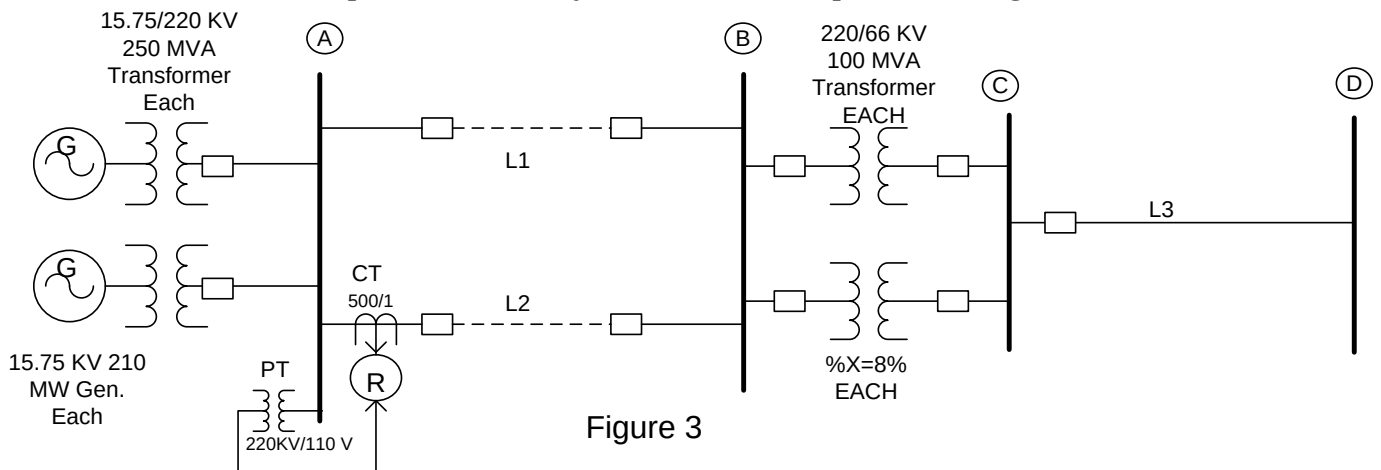

Figure 3
- A** The part of the power system is shown in figure 3. Decide the three zone settings of a mho distance relay R having characteristic angle of 60° . First zone covers 85% of transmission line L_2 , second zone reach is up to bus C and third zone covers 70% of transmission line L_3 . [07]